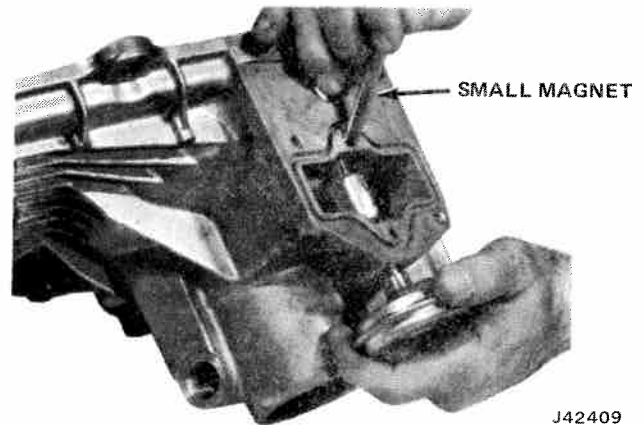
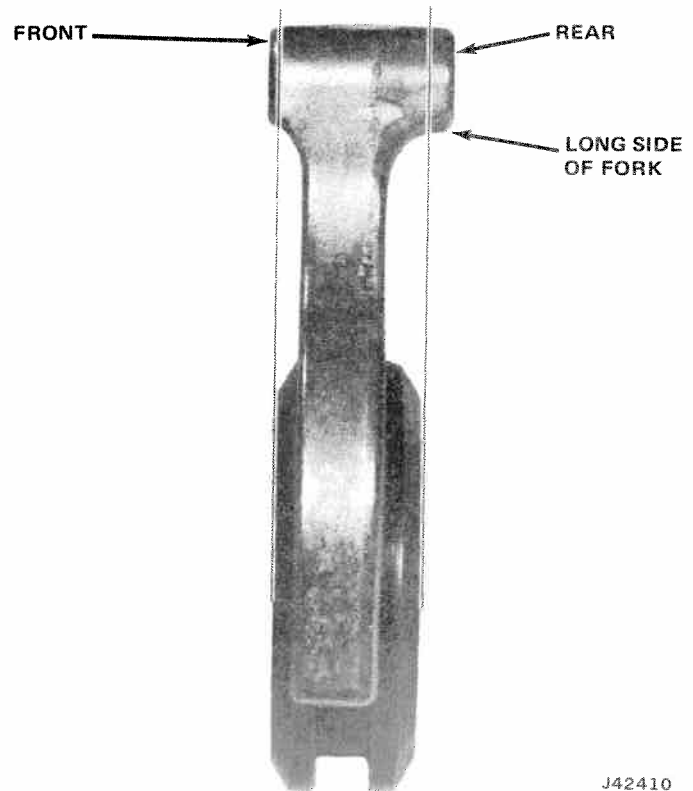

Fig. 8-56 Removing Diaphragm Control
Fig. 8-57 Lockup Hub Assembly with Shift Fork
(4) Insert magnet into opening prior to removing diaphragm control (fig. 8-56).
- (5) Pull diaphragm control from case cover.
- (6) Remove detent ball and spring.
- (7) Remove shift fork and plastic shifting shoes.
- (8) Remove lockup hub.
- (9) Lubricate and position shifting shoes in shift fork. Place lockup hub into shift fork (fig. 8-57).